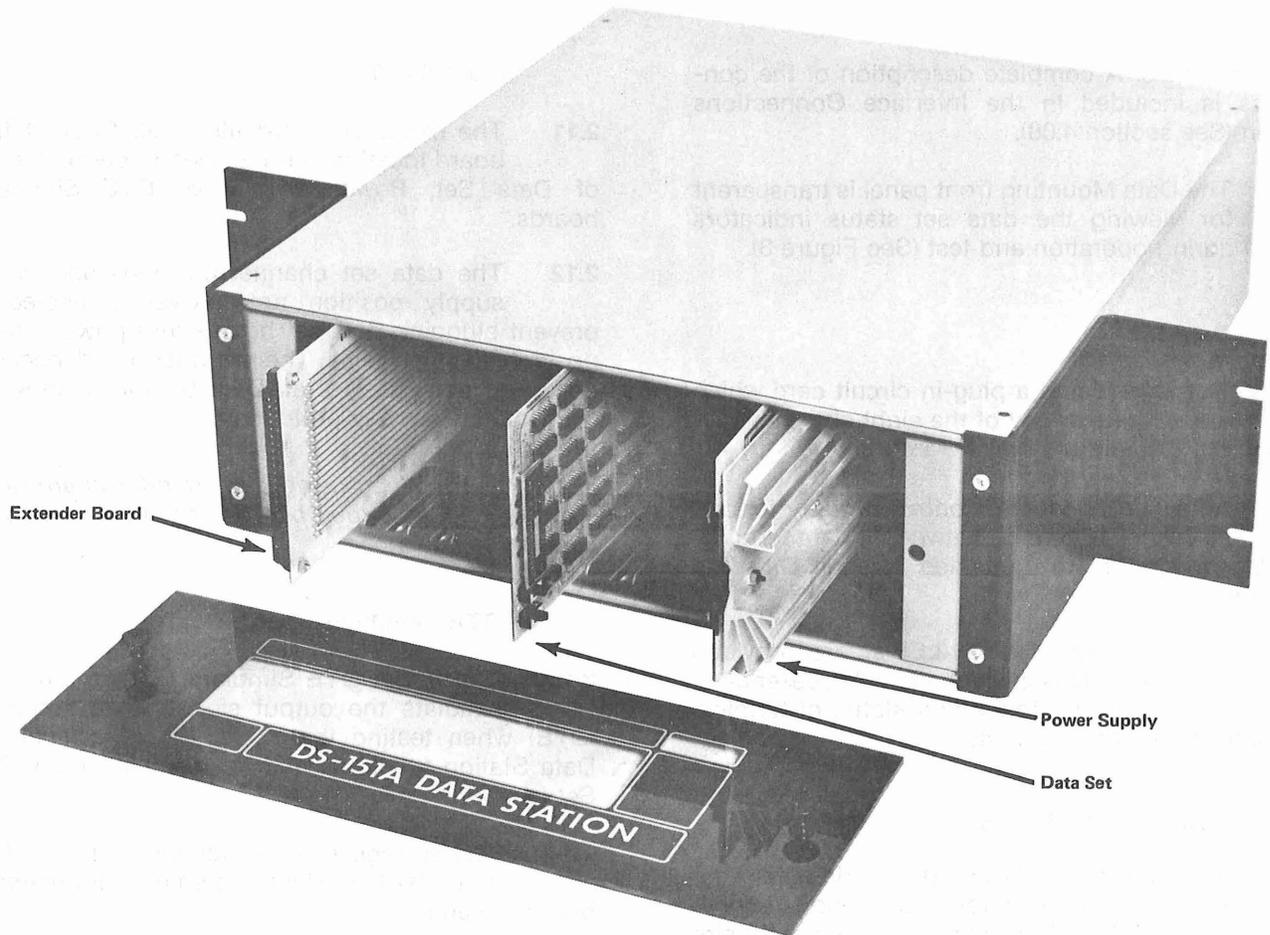

Figure 4, DS151A Data Station (One Channel Installation Shown)
2.01 The VuSet Data Station consists of the following principal assemblies. (See Figs. 4 & 5).